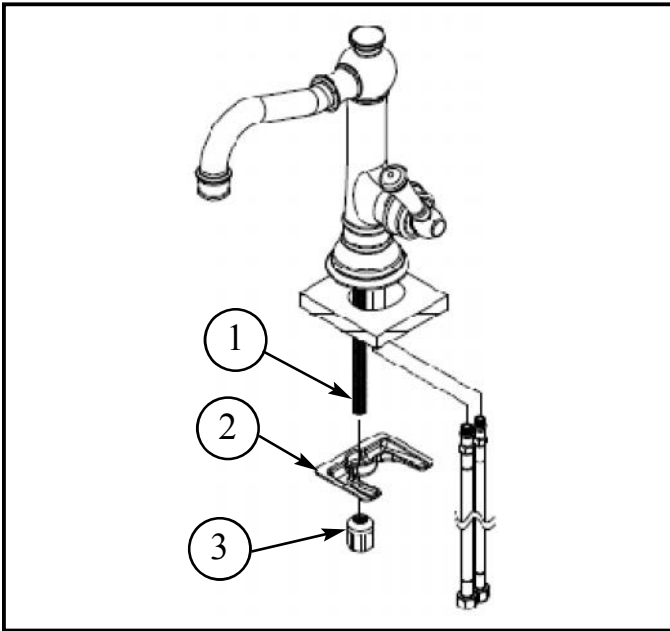

Figure 1
1. Insert hoses through deck hole one at a time, and secure spout into place with MOUNTING STUD(1), MOUNTING BRACKET(2) and MOUNTING NUT (3). See Fig. 1